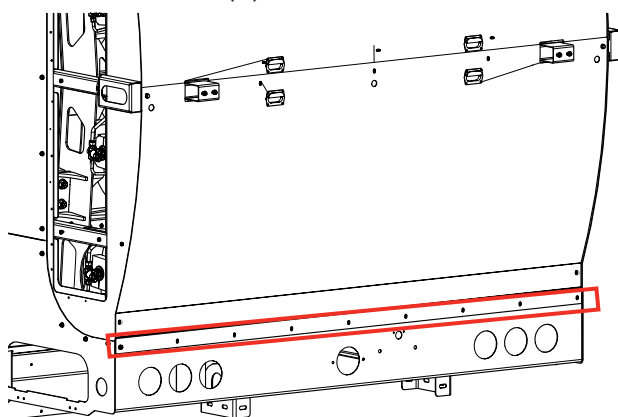

Figure 29-3
4. Reinstall the (9) fasteners to hold the bottom cover sheet in place (Figure 29-3).